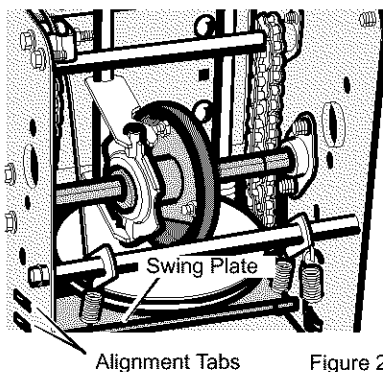

Figure 21
**plate** is properly secured (see Figure 21).